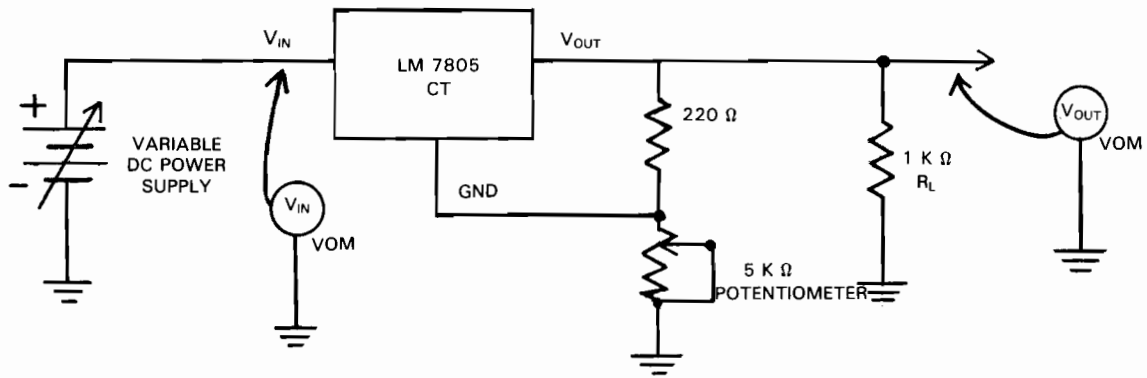

Fig. 15-6-3
5. Turn off the dc power source and connect the variable regulator circuit of Fig. 15-6-3.